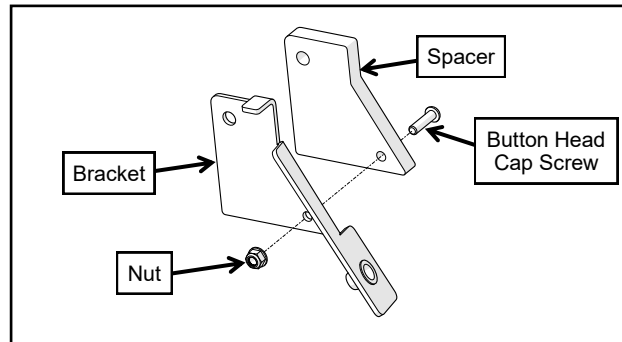

Fig. 1.10 (Install Spacer to Bracket)
- 1.10 Install spacer on outside of compressor mounting bracket as shown on Fig 1.10. Use hardware listed below.